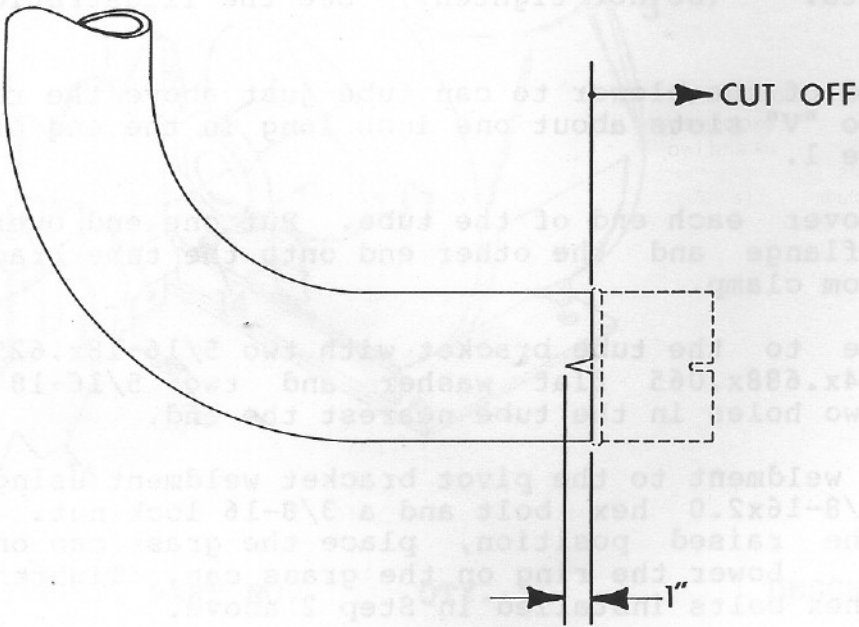

FIGURE 1
- 5.3 Cut off the end of the blower to can tube just above the raised ring. Make two "V" slots about one inch long in the end of the tube. See Figure 1.